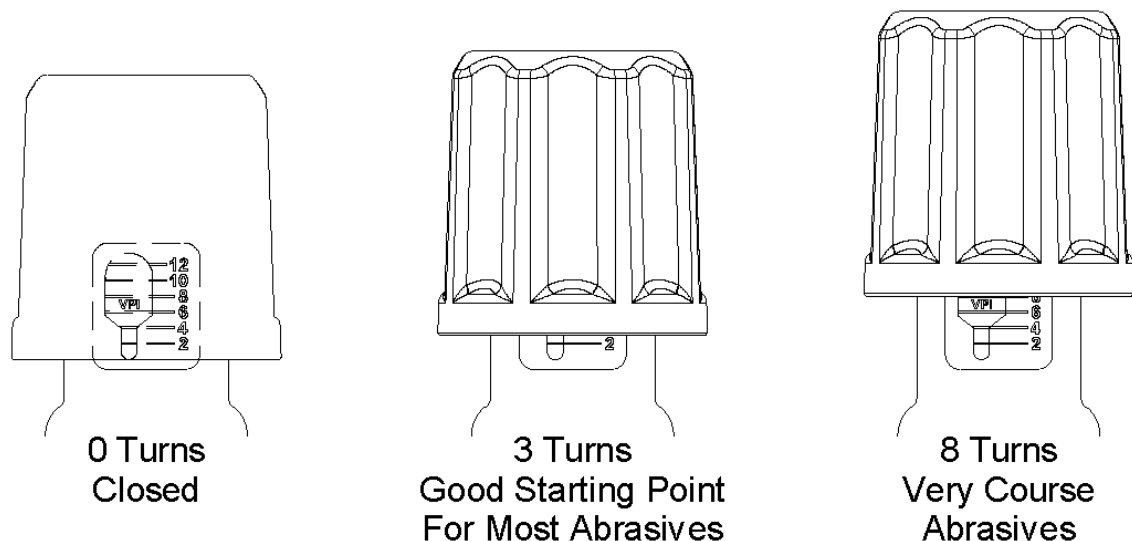

Figure 7.2 – PicoValve® VPI Detail
- 7.2.5. For initial startup, the PicoValve (#14) should only be partially open. Turn the valve knob clockwise to completely close, then turn counterclockwise about three turns to partially open. The best setting for the valve varies depending on abrasive type, blast pressure, and nozzle size; therefore, it may take more than one adjustment to achieve the desired air/abrasive mixture. Further adjustment can be made later as needed. See Figure 7.2.
- 7.2.12. Note the orifice indicator (VPI) on the side of the PicoValve (#14) body to view the knob position relative to the abrasive flow. The VPI position can be used as reference when changing nozzle size or abrasive for different applications. See Figure 7.2.